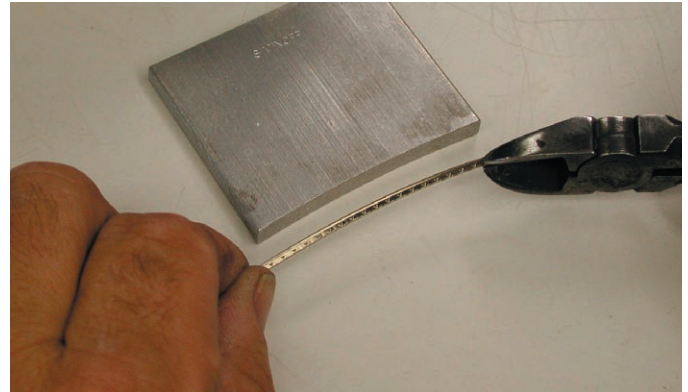

Fig. 2
4) To pre-bend the fretwire, use wire cutters (Fig.2) to hold the tang of the fretwire, and curve the fretwire to conform to the radiused edge of the *Siminoff* Fret Setting Tool. We recommend that you bend the fretwire a bit more acute (more of a curve) than actually needed.